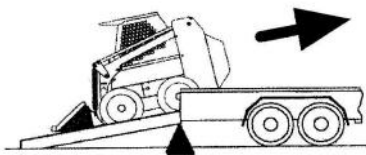

Fig 33 Right
6. fix the loader with chain and wood to increase the security of transportation (Fig 33)